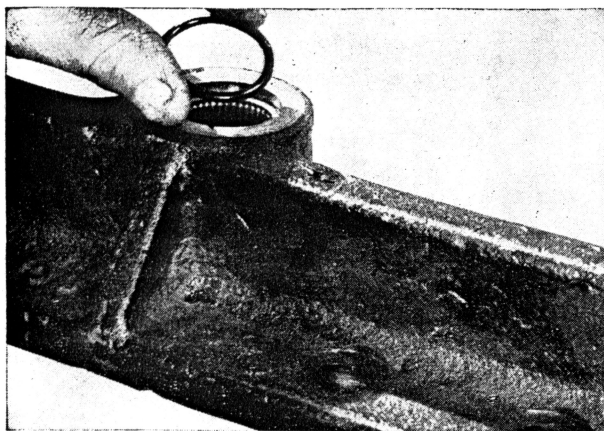

Fig. 38
G. Install "O" ring seal above upper axle center bearing, (Refer to Fig. 38) then holding thrust washer in position, insert steering arm pin through axle center, and install lower "O" ring seal and lower thrust washer.